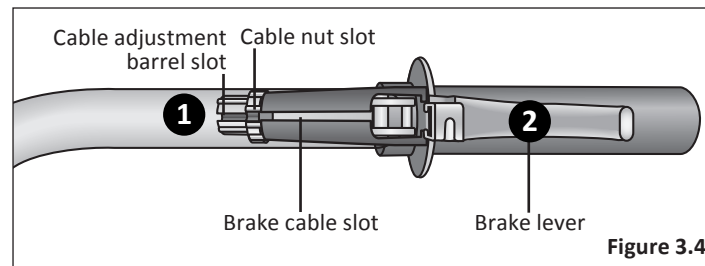

Figure 3.4
- 1 Rotate the cable adjustment barrel and cable nut until the slots are aligned with the slot on the brake lever body. **Figure 3.4**